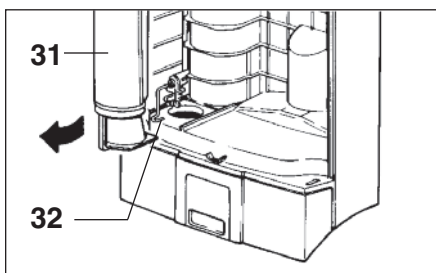

Figure 10
Changing the Micro-Hygiene Filter - Figure 10
3. Microfilter not properly inserted.	3. Lift safety lever and insert filter with vertical plastic ridge on filter facing you (see pg. 8, figure 10).